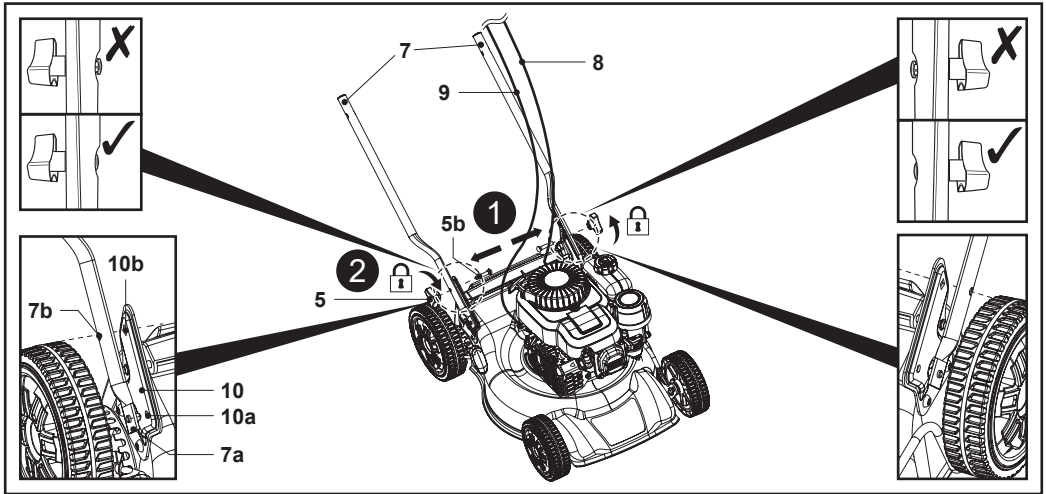

Fig. 1
2. Unscrew the two lock knobs (5) anti-clockwise from the thread of the mounting bolts (M8*35) (5b) for use. Keep them handy to avoid loss.
3. Keep one lower handle bar (7) protrudes outward, then align and engage its spigot (7a) in the holding hole (10a) of the handle bracket (10). Keep the handle assembly in position.
4. Align and pass one mounting bolt (M8*35) (5b) through the mounting holes (10b, 7b) of the handle bracket (10) and the lower handle bar (7) until the stop, then attach the lock knob (5) (Fig. 1, step 1).
5. Secure the handle assembly by screwing in the lock knob (5) clockwise on the thread of the mounting bolt (M8*35) (5b) (Fig. 1, step 2).
6. Repeat the above steps on the other lower handle bar (7).
7. Make sure that the self-propelling wire (8) and the brake wire (9) run on the upper side of the lower handle bar (7).